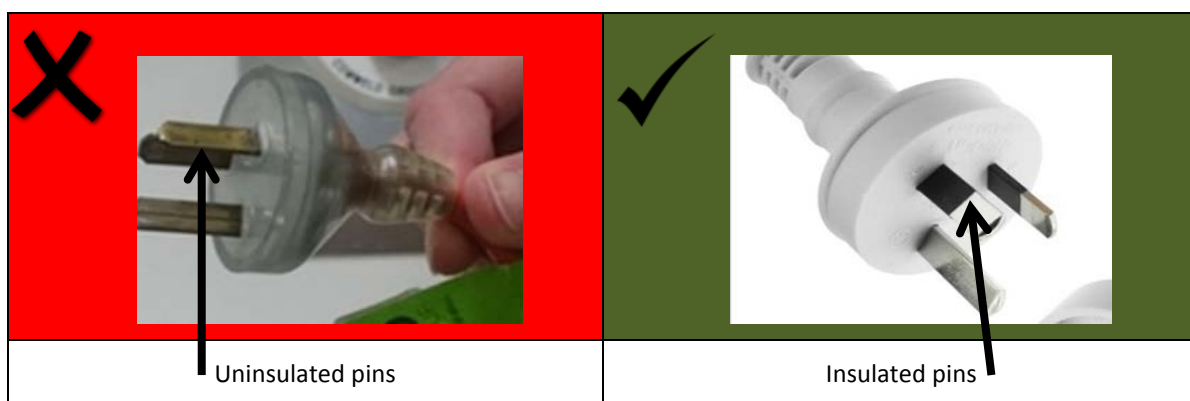

Figure 1: Uninsulated and insulated appliance plugs
1. Visually inspect the pins on the appliance plug to confirm it is insulated. Electrical appliances sold/supplied in Australia from April 2005 are required to have plugs with insulated pins (Figure 1).